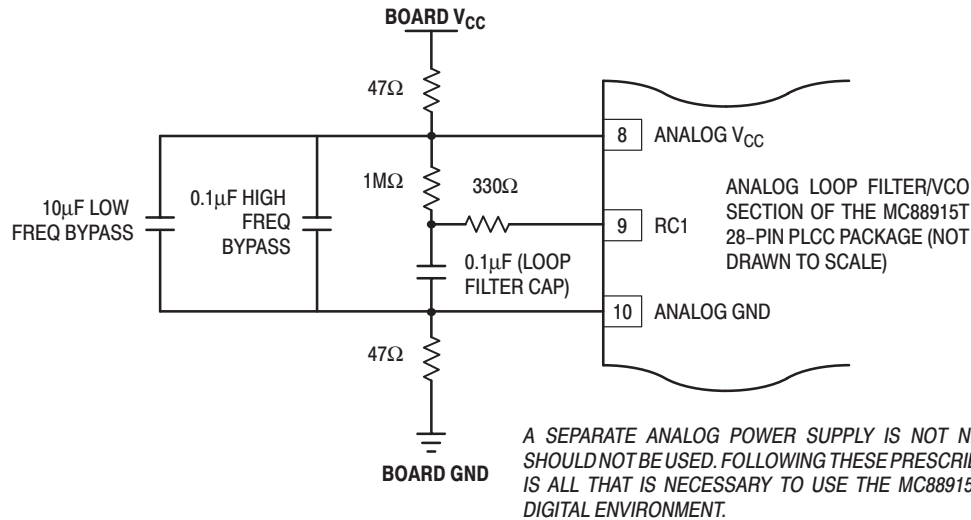

Figure 6. Recommended Loop Filter and Analog Isolation Scheme for the MC88915T
1. Figure 6 shows a loop filter and analog isolation scheme which will be effective in most applications. The following guidelines should be followed to ensure stable and jitter-free operation:
If good bypass techniques are used on a board design near components which may cause digital V_{CC} and ground noise, the above described V_{CC} step deviations should not occur at the 88915T's digital V_{CC} supply. The purpose of the bypass filtering scheme shown in Figure 6 is to give the
2. In addition to the bypass capacitors used in the analog filter of Figure 6, there should be a 0.1µF bypass capacitor between each of the other (digital) four V_{CC} pins and the board ground plane. This will reduce output switching noise caused by the 88915T outputs, in addition to reducing potential for noise in the 'analog' section of the chip. These bypass capacitors should also be tied as close to the 88915T package as possible.